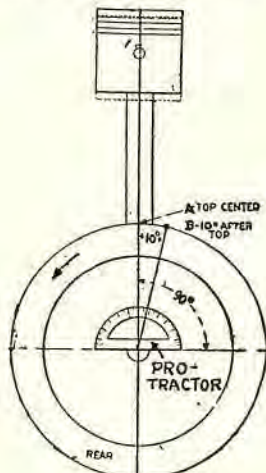

Fig. 23
The first procedure would be to make a punch mark, or place an "indicator" at the base of the rear cylinder (A), Fig. 23. Be sure it is exactly in the center of the cylinder (see Fig. 20A, page 66); however, when the piston is on top dead center when the indicator is being located, it could be placed to one side, as on the Reo.
Although the table on page 68 shows how to find in inches or a fraction thereof just where to mark a flywheel in degrees, another method is given below. Suppose there are no timing marks on the flywheel and you desire to mark it so that the exhaust valve closes 10° after top dead-center (see Fig. 23).